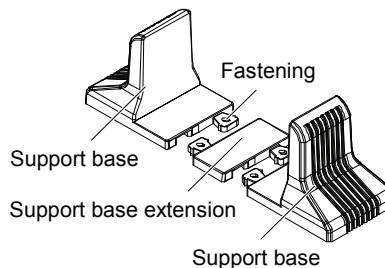

Figure 2-3 Connecting the support base with support base extension
1. Take out the support bases from the accessories, assemble a pair of support bases and a support base extension together through fastenings, as shown in Figure 2-3, and put them onto the flat installation table.